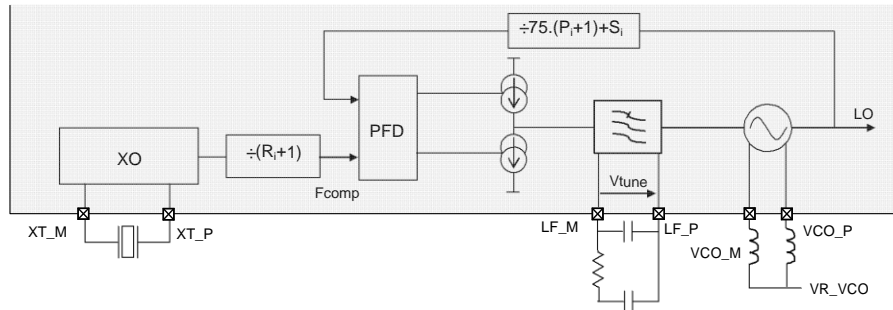

Figure 5: Frequency Synthesizer Description
The crystal oscillator (XO) forms the reference oscillator of an Integer-N Phase Locked Loop (PLL), whose operation is discussed in the following section. Figure 5 shows a block schematic of the RFM63W PLL. Here the crystal reference frequency and the software controlled dividers R, P and S determine the output frequency of the PLL.
As shown in Figure 5 the PLL structure comprises three different dividers, R, P and S, which set the output frequency through the LO. A second set of dividers is also available to allow rapid switching between a pair of frequencies: R1/P1/S1 and R2/P2/S2. These six dividers are programmed by six bytes of the register MCPParam from addresses 6 to 11.